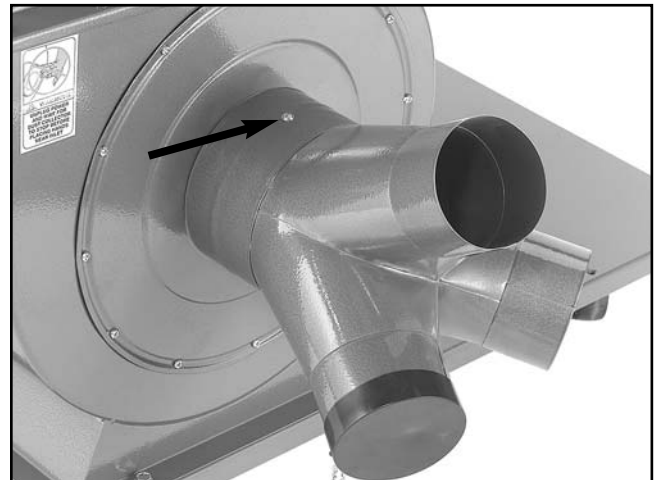

Figure 21. Installed inlet.
2. Secure the inlet in place with the Phillips head tap screw (**Figure 21**).